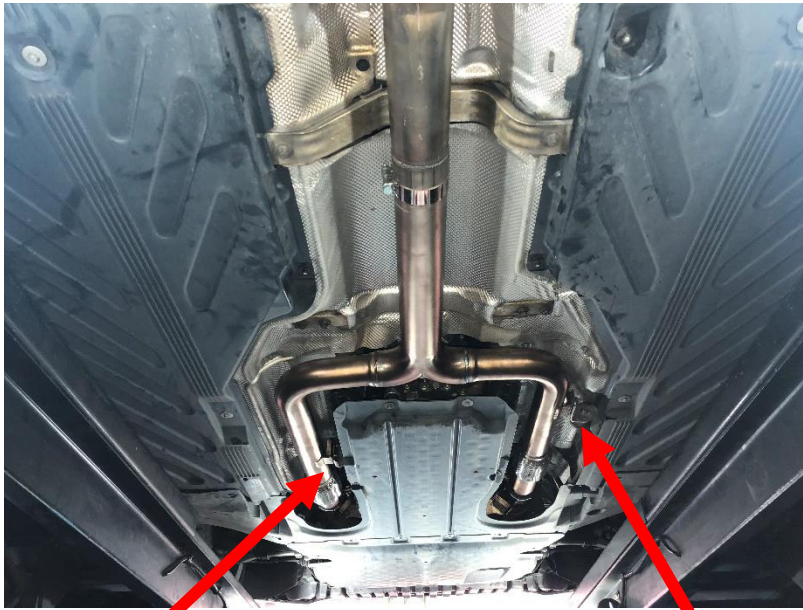
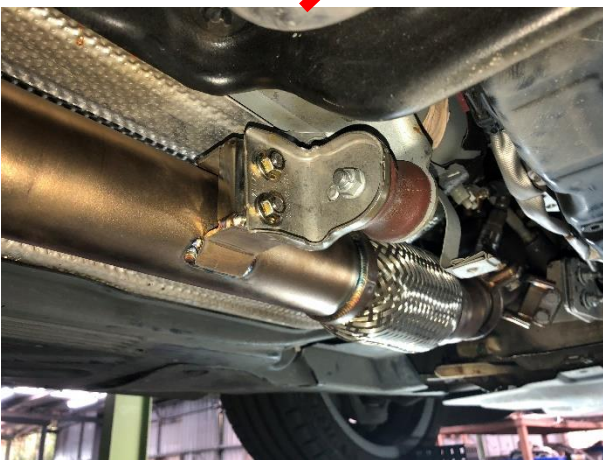

Figure 11
Figure 12
4. Insert the front pipe into the cat pipe (Figure 11), lock the bushes screw, without screw the clamps (Figure 12、13).